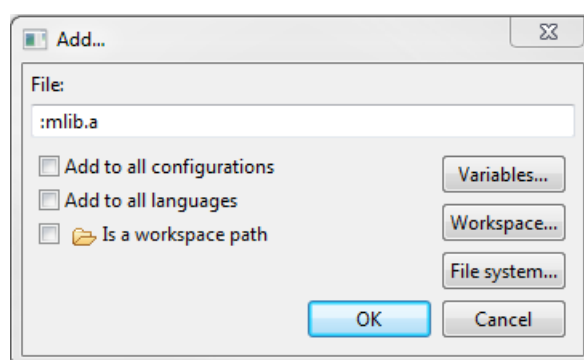

Figure 1-21. Library file inclusion
17. Type the following into the File text box (see Figure 1-21): :mlib.a